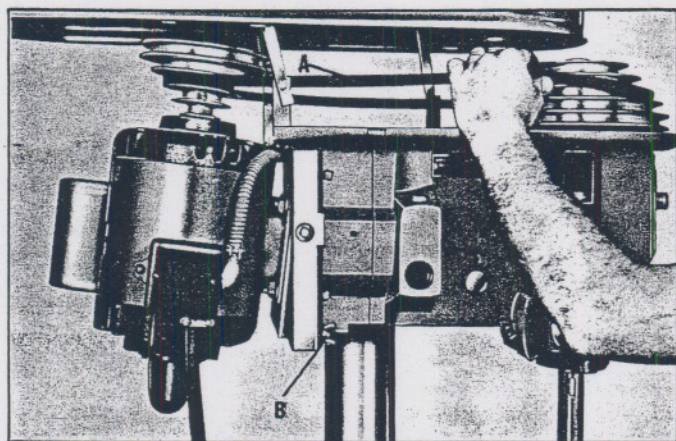

Fig. 3.
2. Release belt tension by loosening wing nut (B) Fig. 3, on left side of motor bracket.
3. Remove belt (A) Fig. 3.